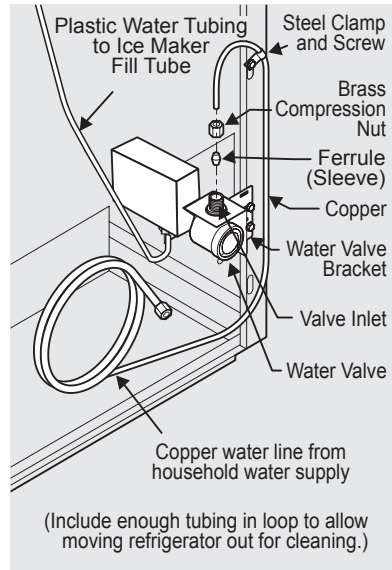

Figure 1
4. **If you use copper tubing** - Slide brass compression nut, then ferrule (sleeve) onto water supply line. Push water supply line into water valve inlet as far as it will go ($\frac{1}{4}$ in. / 6.4 mm). Slide ferrule (sleeve) into valve inlet and finger tighten compression nut onto valve. Tighten another half turn with a wrench; DO NOT overtighten. See Figure 1.